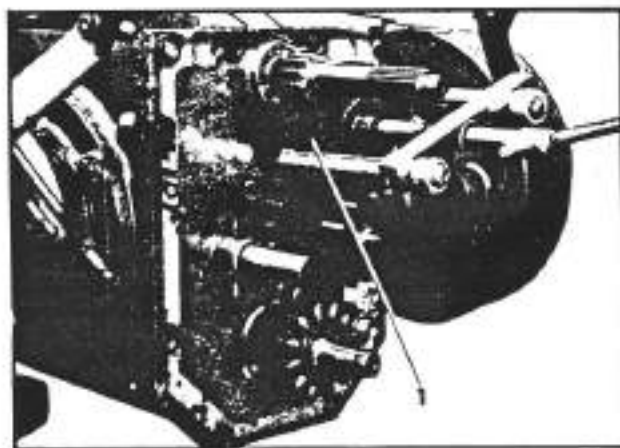
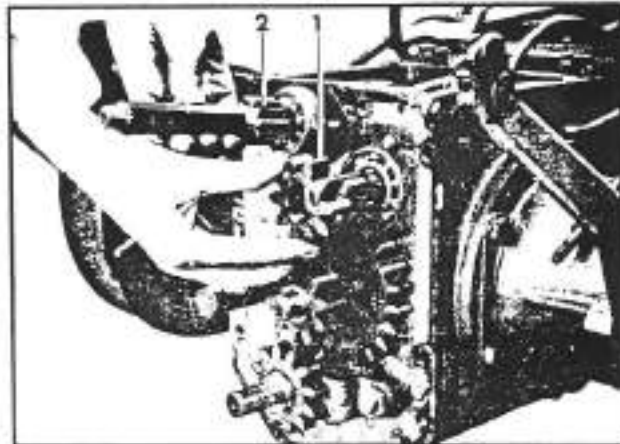

Fig. 3-18. Removal of the main drive shaft gear
Fig. 3-19. Removal of the idling gear and the driving pinion
- n. Extract, as indicated in figure 3-18, the gear (1; fig. 3-18) and the gear (1; fig. 3-19). Ease out the driving pinion (2, fig. 3-19) with its bearing.